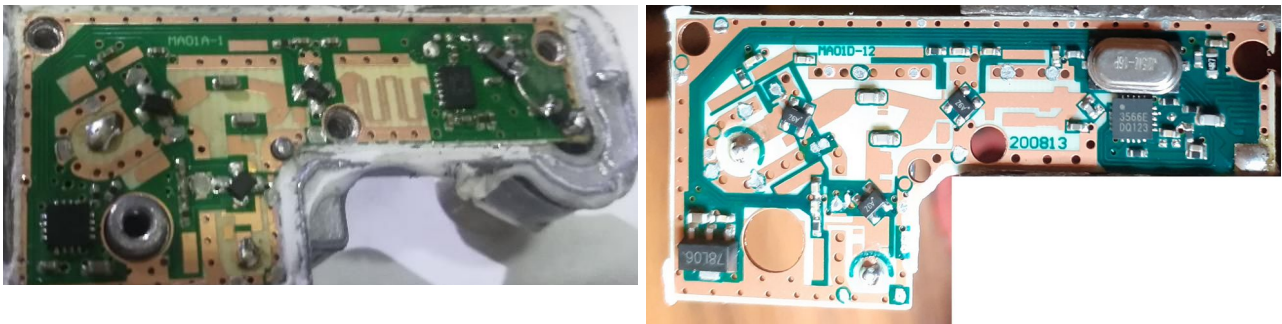

Figure 47: Innards of SV1BDS' Amiko L107 LNB (left)⁴¹ and of the one I bought (right).
- This is what SV1BDS did: He removed the 25MHz crystal (through-hole) and fed the signal as shown in the picture in figure 47, left⁴³. He used 18pF and 2.2μH in series to diplex 25MHz onto the same coaxial connector as the main signal.